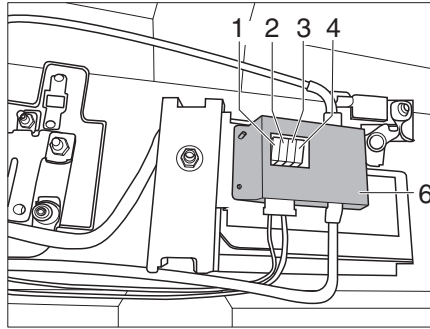
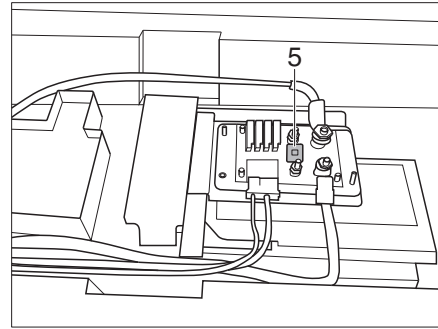

Fig. 312 Fuses Globebus Performance
Fig. 313 Fuse charging booster (cover removed)
- To access the fuse F5 (Fig. 313,5) for the charging booster, the cover (Fig. 312,6) must be removed.